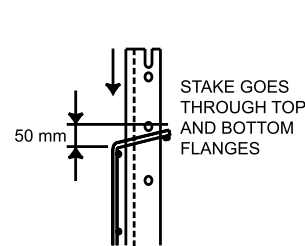

FIG. 4
8. Starting panel - drive picket into ground until second hole from top of picket is approximately 50 mm above the top flange (Fig. 4).